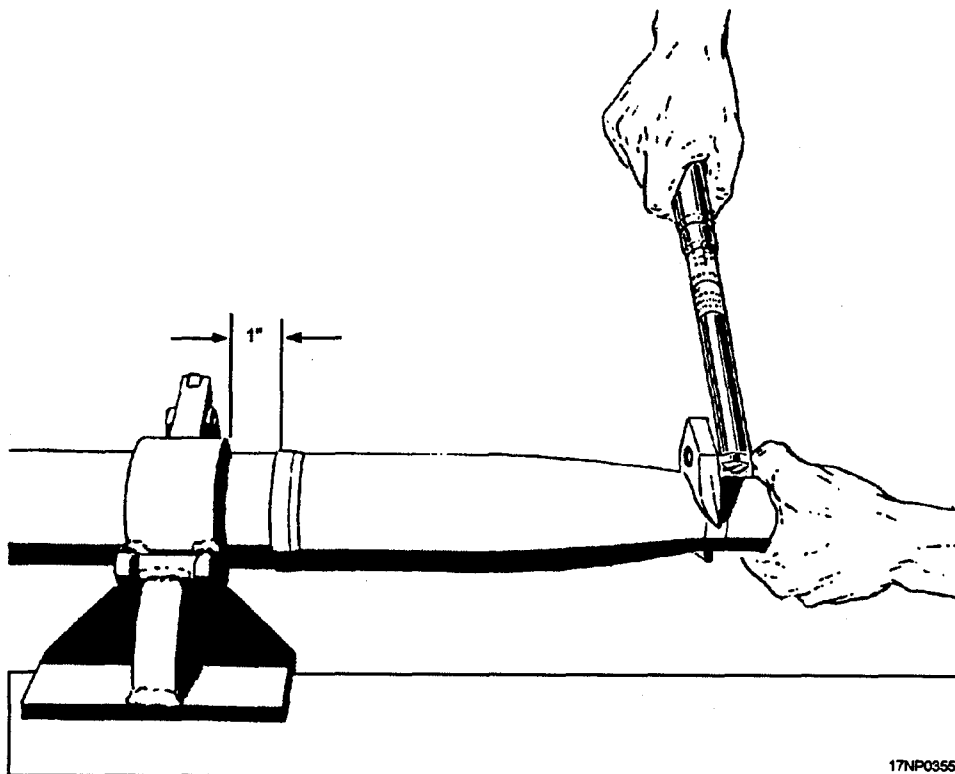

Figure 13-25.—Holding fixture assembly.
1. Place rocket motor body in holding fixture (fig. 13-25).
3. Apply the specified torque to the warhead by using a crowfoot adapter and torque wrench (fig. 13-25).